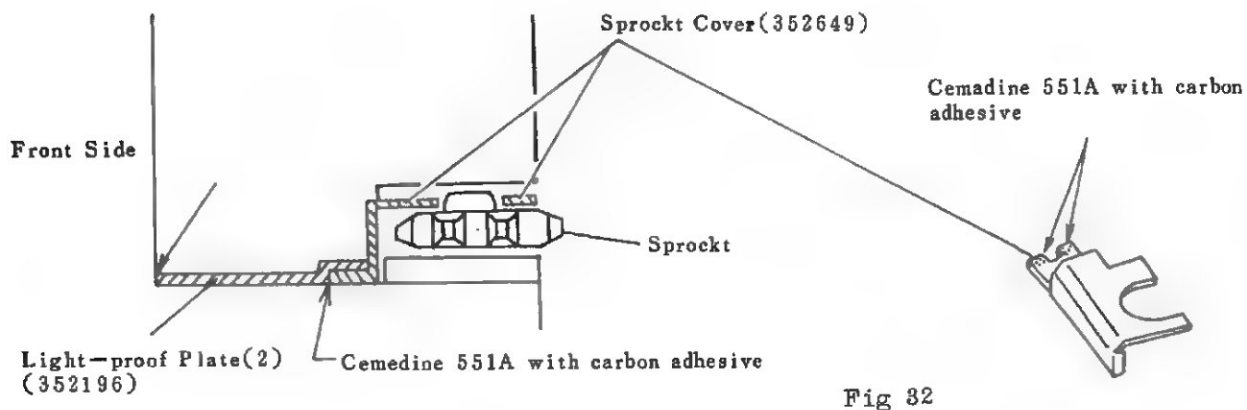

Fig 32
- a) Reassembling the Sprocket Cover (352649) and Light-proof Plate(2) (352196) are in position as shown in (Fig 32).